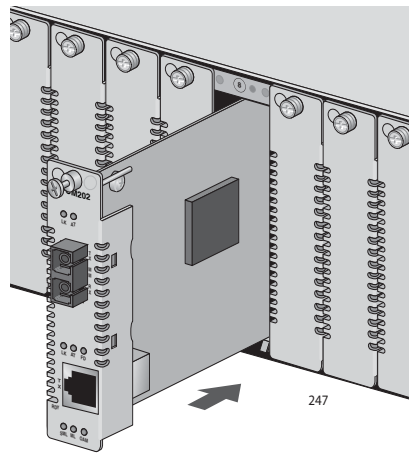
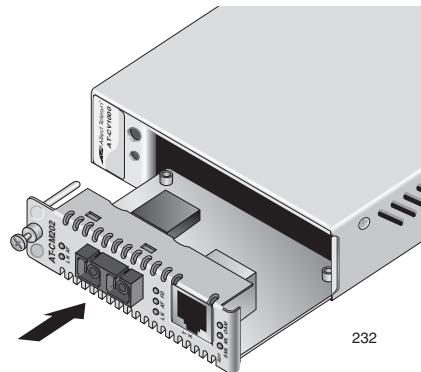

Figure 20. Inserting the Line Card in an AT-CV5000 Chassis
Figure 21. Inserting the Line Card in an AT-CV1000 Chassis
- Slide the line card into the slot until the card's faceplate is flush with the front of the chassis, as shown in Figure 20, Figure 21, and Figure 22.